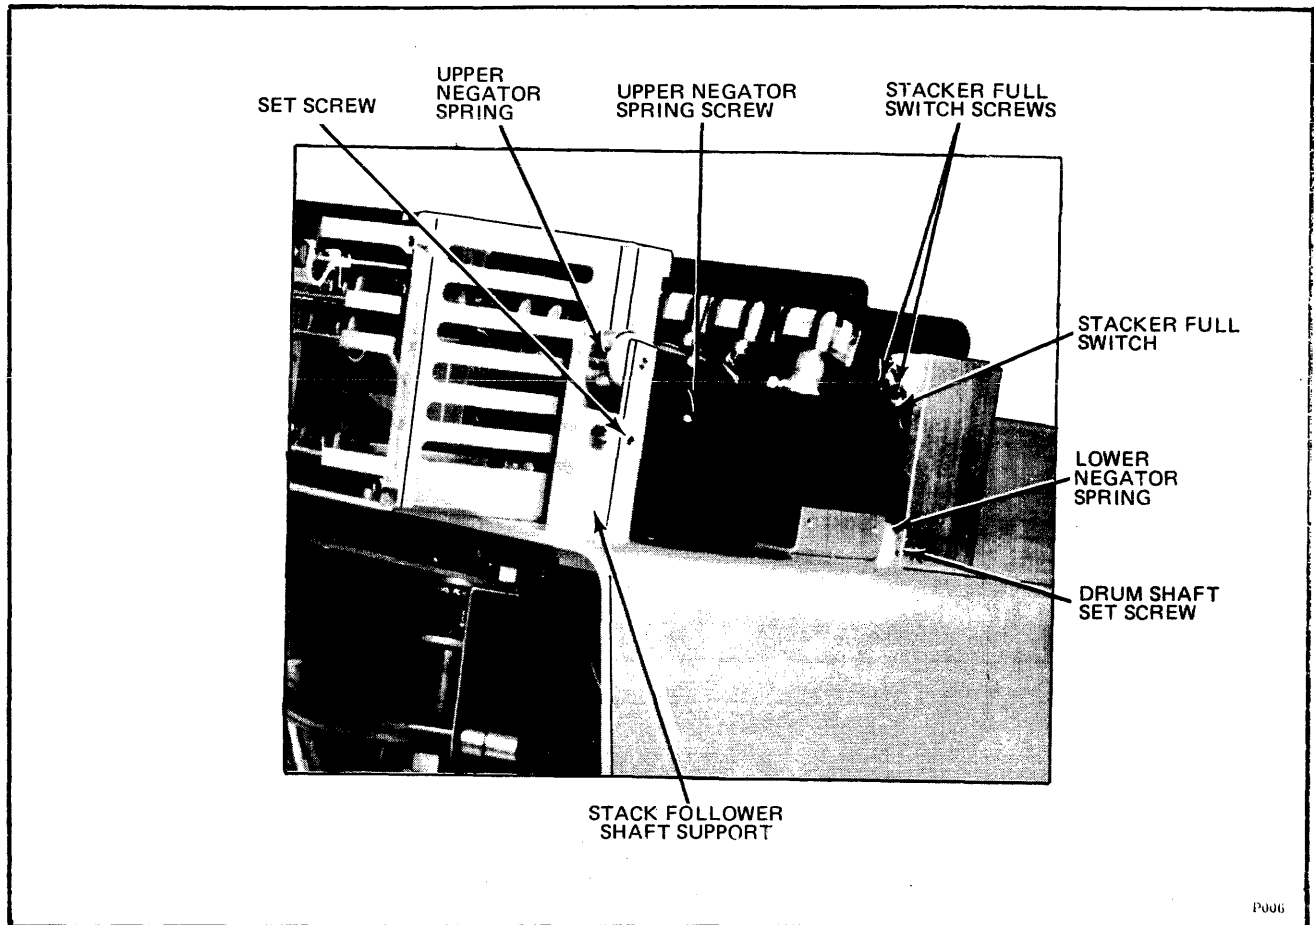

Figure 9-21. Stacker Full Switch Replacement
- d. Loosen set screw in rear stack follower shaft support, Figure 9-21.
- b. Remove upper stacker negator spring screw, Figure 9-21.
- b. Remove two screws holding stacker full switch, Figure 9-21.